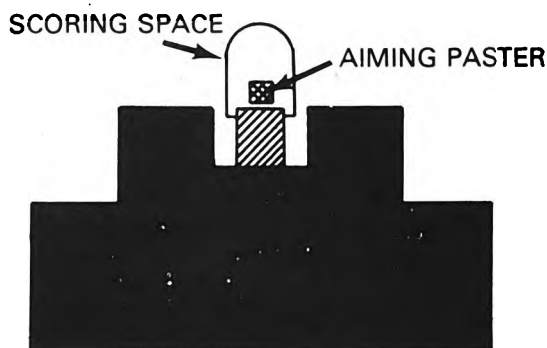

Figure 2.
- b. Sight picture: The gunner centers the target over the front sight blade so that it appears to rest on top of the front sight blade and on top of the rear sight slide (figure 2).